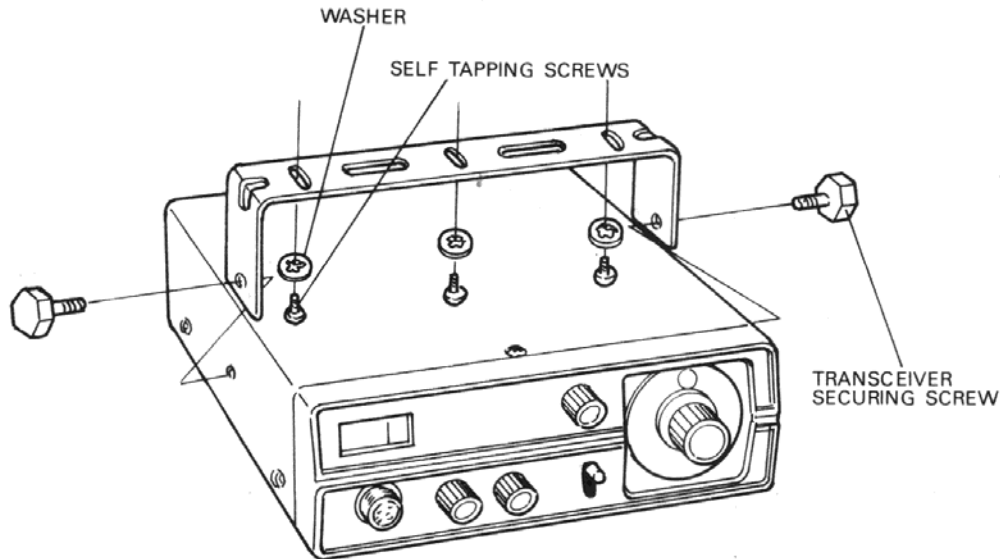

Figure 3. Transceiver Mounting
1. The transceiver should be mounted as illustrated in Figure 3. First drill three or four holes (diameter about: 5/32"; 3.6 mm) in the location to be mounted.